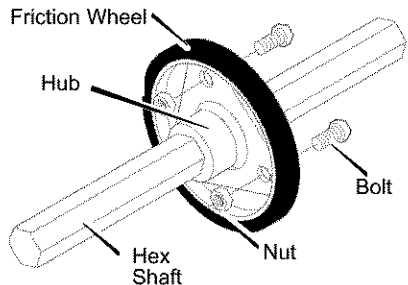

Figure 37
7. Remove the three **fasteners** that hold the **friction wheel** to the **hub**. See Figure 37.
- Remove the **friction wheel** from the **hub**. Slip the **friction wheel** toward the right off the **hex shaft**. See Figure 37.